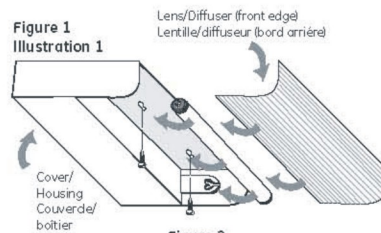

Figure 2
- 10) Connect the hot (black) AC supply wire(s) to the hot (black) wire(s) of the fixture. Secure the connection with the wire nuts provided. **See Figure 2.**
- 11) Connect the white (neutral) AC supply wire(s) to the neutral (white) wire(s) of the fixture. Secure the connection with the wire nuts provided. **See Figure 2.**
- 12) Connect the ground (green or copper) AC supply wire to the green or copper ground wire of the fixture. Secure the connection with the wire nuts provided. If your electrical system contains no grounding wire, you should consult a qualified electrician before proceeding with the installation. **See Figure 2.**